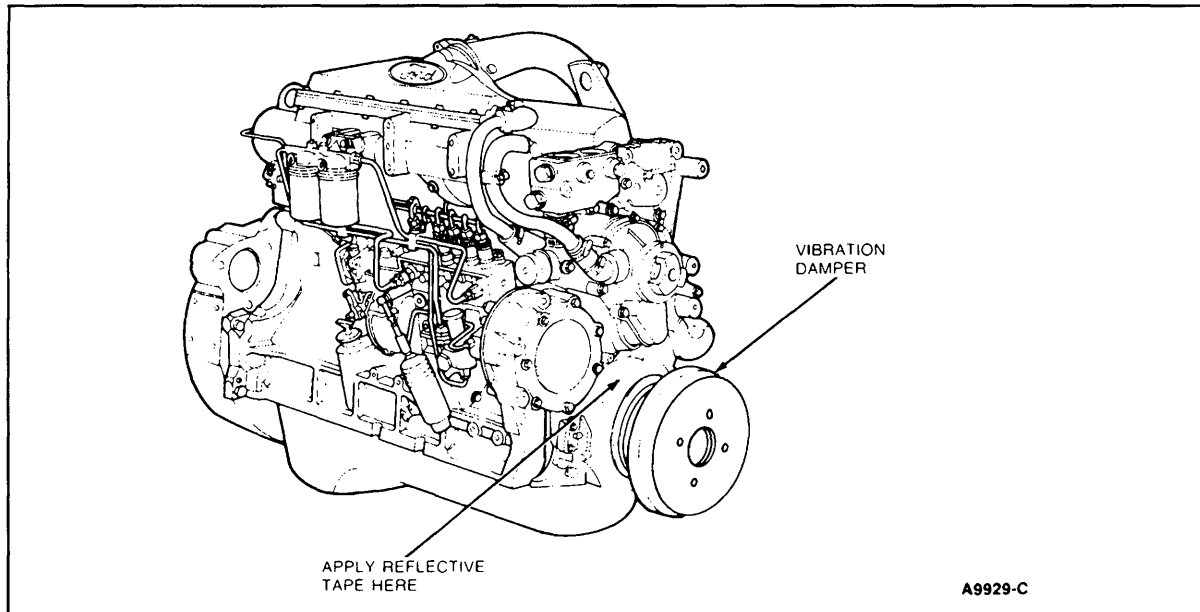

Figure 10 Reflective Tape Application
1. Clean crankshaft vibration damper and apply reflective tape at point shown in Figure 10.